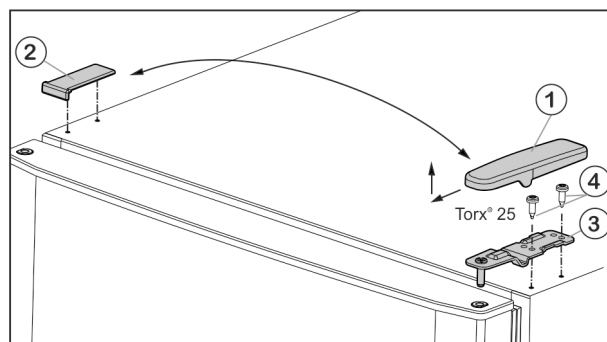

Fig. 5
- ▶ Pull off the cover Fig. 5 (1) forwards and upwards.
- ▶ Lift off the cover Fig. 5 (2).
- ▶ Unscrew the upper turn hinge Fig. 5 (3) (2x Torx® 25) Fig. 5 (4) and lift it off.
- Insert the centre bearing block (13) turned through 180° into the lower door and fasten firmly (**with 4 Nm**) to the new hinge side with the fastening screws (11) (2 x Torx® 25).
- Refit plastic washer (10).
- Set the upper door down on the centre bearing block (13).
- Insert the upper turn hinge Fig. 5 (3) in the door on the new hinge side.
- Screw in the upper bearing block **tightly (with 4 Nm)** (2 x Torx® 25) Fig. 5 (4). Use a cordless screwdriver if necessary.
- Fit the cover Fig. 5 (1) on the opposite side by sliding it rearwards and latching it into place.
- Press the cover Fig. 5 (2) on the opposite side down into place until it latches.